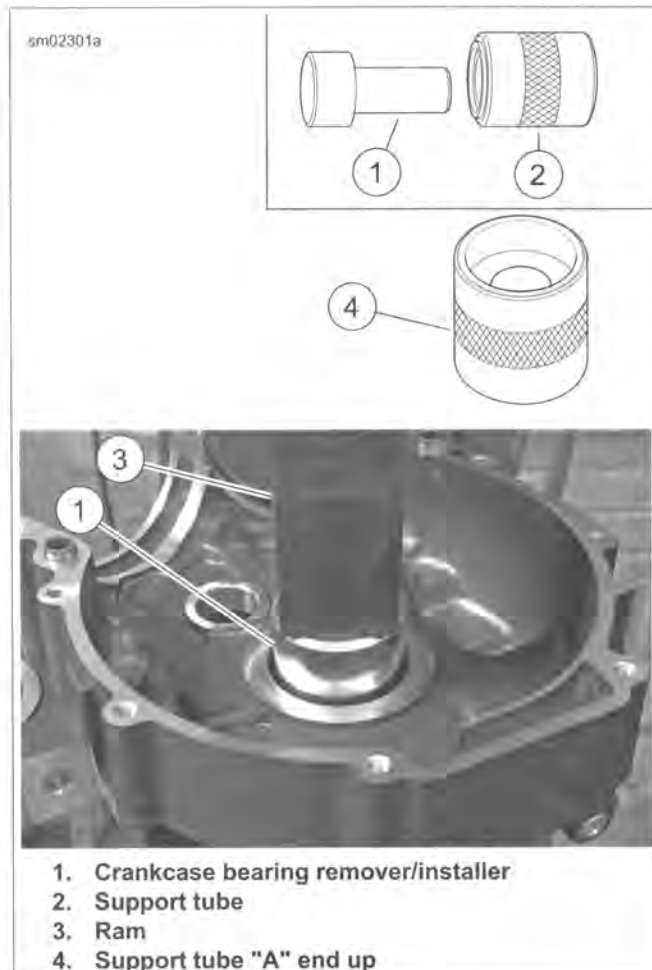

Figure 3-121. Right Main Bearing Removal
2. See Figure 3-121. Obtain CRANKCASE BEARING REMOVER/INSTALLER (Part No. B-45655) and REMOVER/INSTALLER SUPPORT TUBE (Part No. HD-42720-5).
3. Place support tube (4) on hydraulic press table with the "A" end up. Note that the sides of the support tube are stamped to verify proper orientation.
5. Slide remover/installer (1) through bearing into support tube.
6. Center remover/installer under ram (3) of press. Apply pressure until bearing is free.